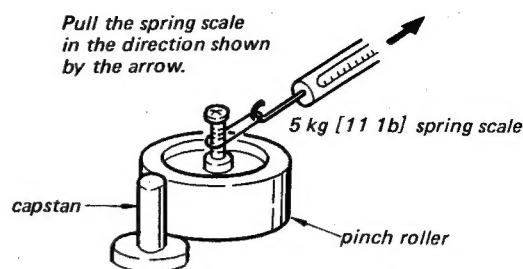

Fig. 5-1-4. Pinch roller pressure adjustment (2)
3. Attach the spring scale (5 kg) to the pinch roller shaft with a piece of string. See Fig. 5-1-4. Pull the scale horizontally in the direction shown by the arrow. The capstan shaft, pinch roller and the spring scale should be in a line. Check the reading just when the pinch roller separates from the capstan.
4. Adjust the adjusting nut (B) for 2.2 ± 0.2 kg. (4.4 to 5.3 lb)
6. After adjustment, lock the adjusting nut (B) by the lock nut (B).
7. Adjust the adjusting nut (A) for the clearance of 0.1 to 0.2 mm between the lock nut (A) and the link shaft.
8. Lock the adjusting nut (A) by the lock nut (A).